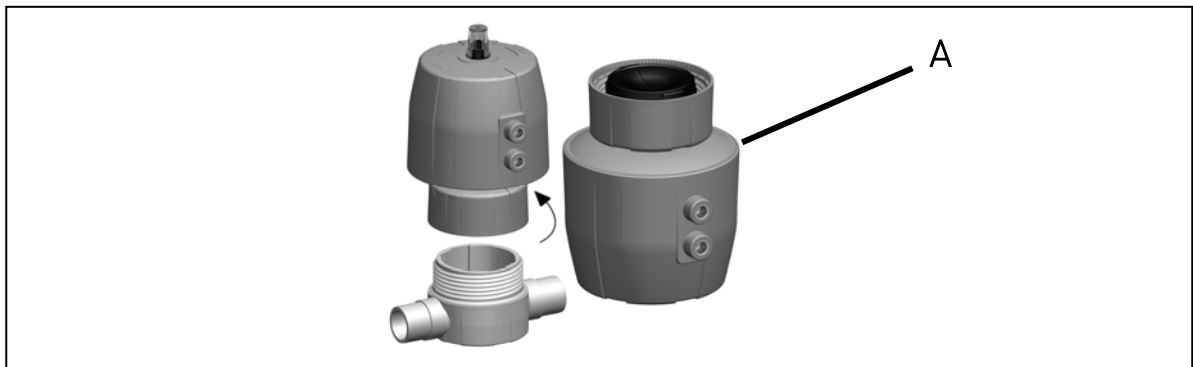

Fig. 21
- Open housing nut **A** with a strap wrench, take actuator out, see fig. 21. Use a strap wrench.